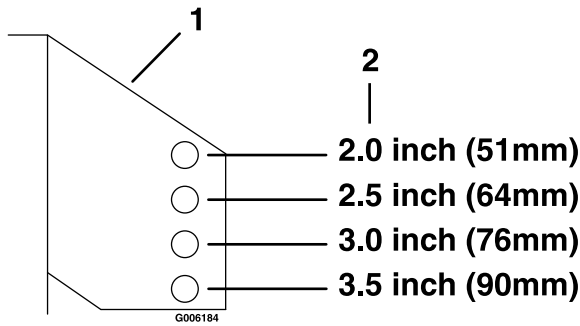

Figure 8
8. Adjust anti-scalp rollers for Normal Operating Conditions. Place rollers in one of the positions shown in Figure 8. Rollers will maintain 3/4 inches (19 mm) clearance to the ground to minimize gouging and roller wear or damage.